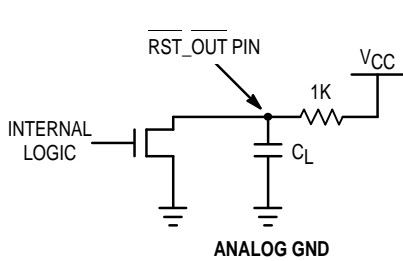

Figure 4. RST_OUT Test Circuit
5. The $\overline{RST_OUT}$ pin is an open drain N-Channel output. Therefore an external pull-up resistor must be provide to pull up the $\overline{RST_OUT}$ pin when it goes into the high impedance state (after the MC88916 is phase-locked to the reference input with $\overline{RST_IN}$ held high or 1024 'Q' cycles after the $\overline{RST_IN}$ pin goes high when the part is locked). In the t_{PLZ} and t_{PZL} specifications, a 1K Ω resistor is used as a pull-up as shown in Figure 4.